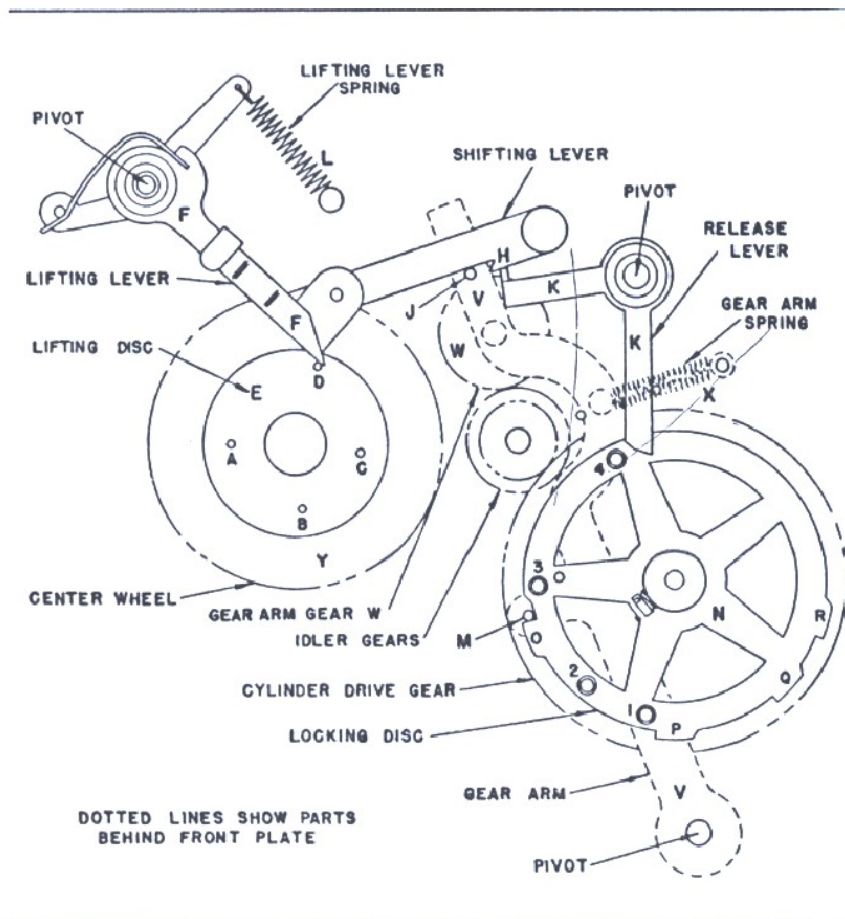

Figure 2
See Figure 2, Page 5
*See Figure 2, Page 5*
The gear arm gear **W** may be meshing too deep with the center wheel **Y**. Bend the top of the gear arm **V** toward the banking pin. See Figure 2, Page 5.